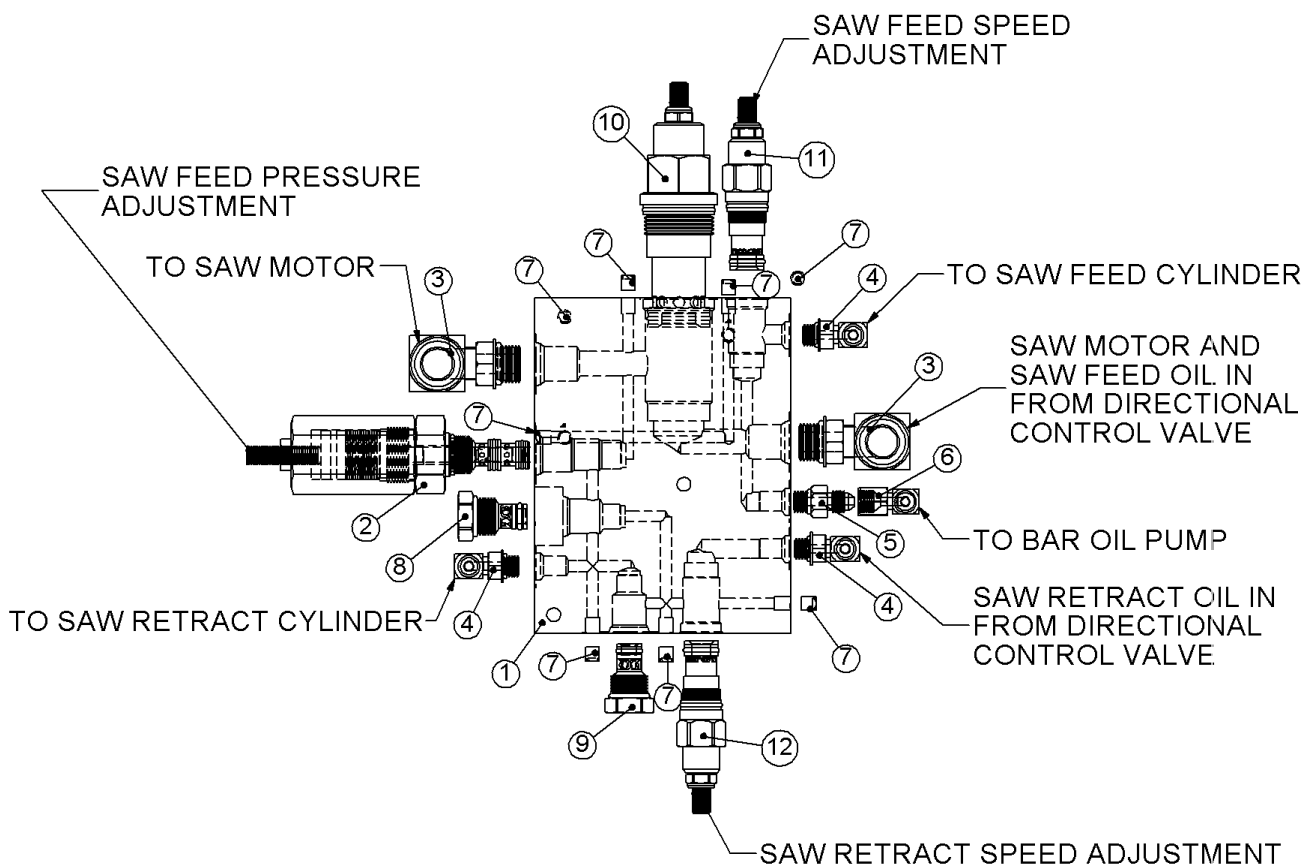
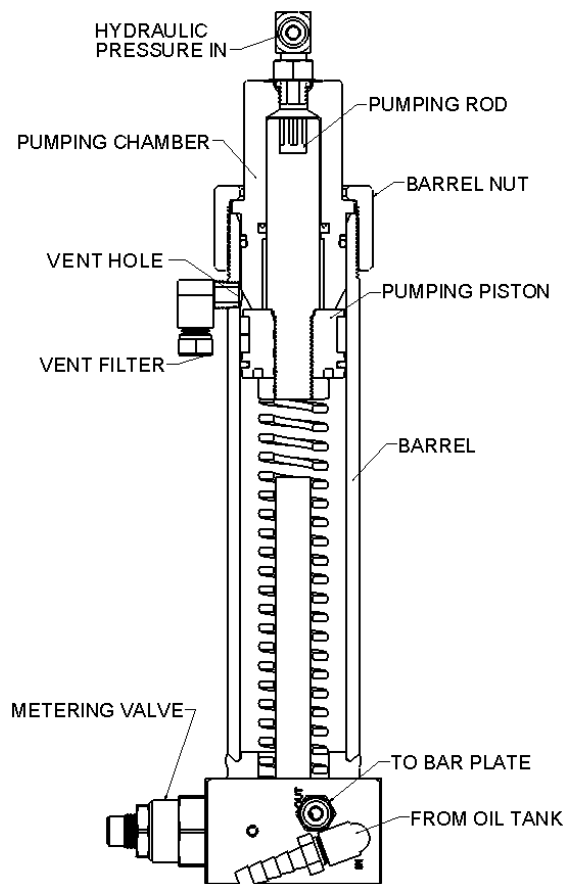

Fig. 8
Fig. 9
Connect and Cut saw systems have a control manifold with cartridge valves to limit flow to the saw motor and feed cylinder, and a feed modulating valve to adjust the feed speed based on the saw motor pressure. We have tested the operation of your system to set the valves before shipping so your system should cut any diameter, species, or hardness of wood without stalling the chain in the cut. The feed modulating valve will make the bar pulsate in the cut on larger or harder wood as it is trying to cut as fast as possible. It may be possible to fine tune the cutting for your application by adjusting the saw feed speed adjustment valve (Fig. 8, item 11). For larger or harder wood loosen the jam nut with a 9/16" wrench and screw the adjustment screw out with a 5/32" hex key wrench (Allen wrench), this will slow the bar movement down, lock the jam nut down when done adjusting. For smaller softer wood you may want to speed up the bar movement by screwing the adjustment screw in. Having the bar move too fast may cause the chain to stick when starting into the cut if the chain hits a knot. It is possible to tune the feed modulating valve (Fig. 8, item 2) by loosening the jam nut with a 9/16" wrench and adjusting the screw with a 3/16" hex key. A smoother cut may be possible by screwing the adjustment screw out, but this may increase the cutting time in larger or harder wood. If the wood is dry and hard screwing the feed modulating adjustment in may decrease cutting time. Screwing the feed modulating adjustment in too far will cause the chain to stall. Be sure to lock the jam nut after adjusting a valve.
The DH0144 bar oil pump (Fig. 9) is a single acting pump that can pump up to 32 cc, or 1.08 oz., of bar oil per cycle, enough for about 30 seconds of cutting. There is a hose connected to the feed and motor control valve manifold (Fig. 8, item 6) that connects to the fitting (Fig. 9, hydraulic pressure in) on the bar oil pump. When a cut is started flow and pressure from the manifold pushes on the pumping rod and piston to force a metered amount of oil to the bar. Very little rotational adjustment is needed for the metering valve in Figure 9. Turning it clockwise reduces the speed oil is pumped and turning it counterclockwise increases the speed the oil comes out. If you run the tank out of oil you may need to prime the pump. To prime the pump remove the barrel nut and pull out the pumping chamber, pumping piston, and pumping rod. Fill the barrel with bar oil up to the vent hole. Reinstall the pumping rod assembly into the pumping chamber with care to not damage the rod seal. Reinstall the pumping chamber and pumping rod assembly into the barrel, with care to not damage the piston or the O-Ring, and retighten the barrel nut. To reduce the chance of seal damage make sure the seals are oiled and wiggle in a circular motion as you push the parts together.